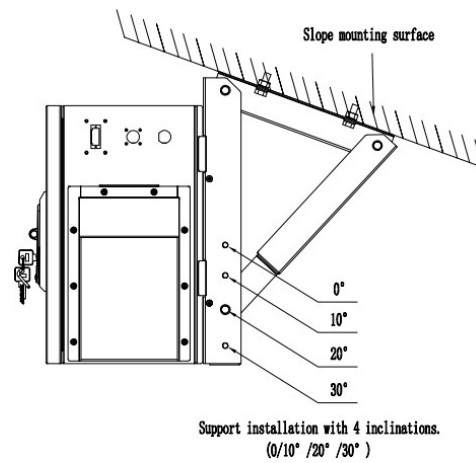

Figure 5.11 Diagram of Adjustment Angle of The Installation Plate
- Installation on angled overhead support : As shown in the figure 5.11 : Firstly, combined with the slope of the parking gantry, adjust the installation support angle so that the installed terminal is perpendicular to the ground. (Installation supports four angle adjustments: 0 ° , 10 ° , 20 ° , and 30 ° , to adapt to different gantry slopes). Then, use the combination bolts to install the Installing support in the corresponding